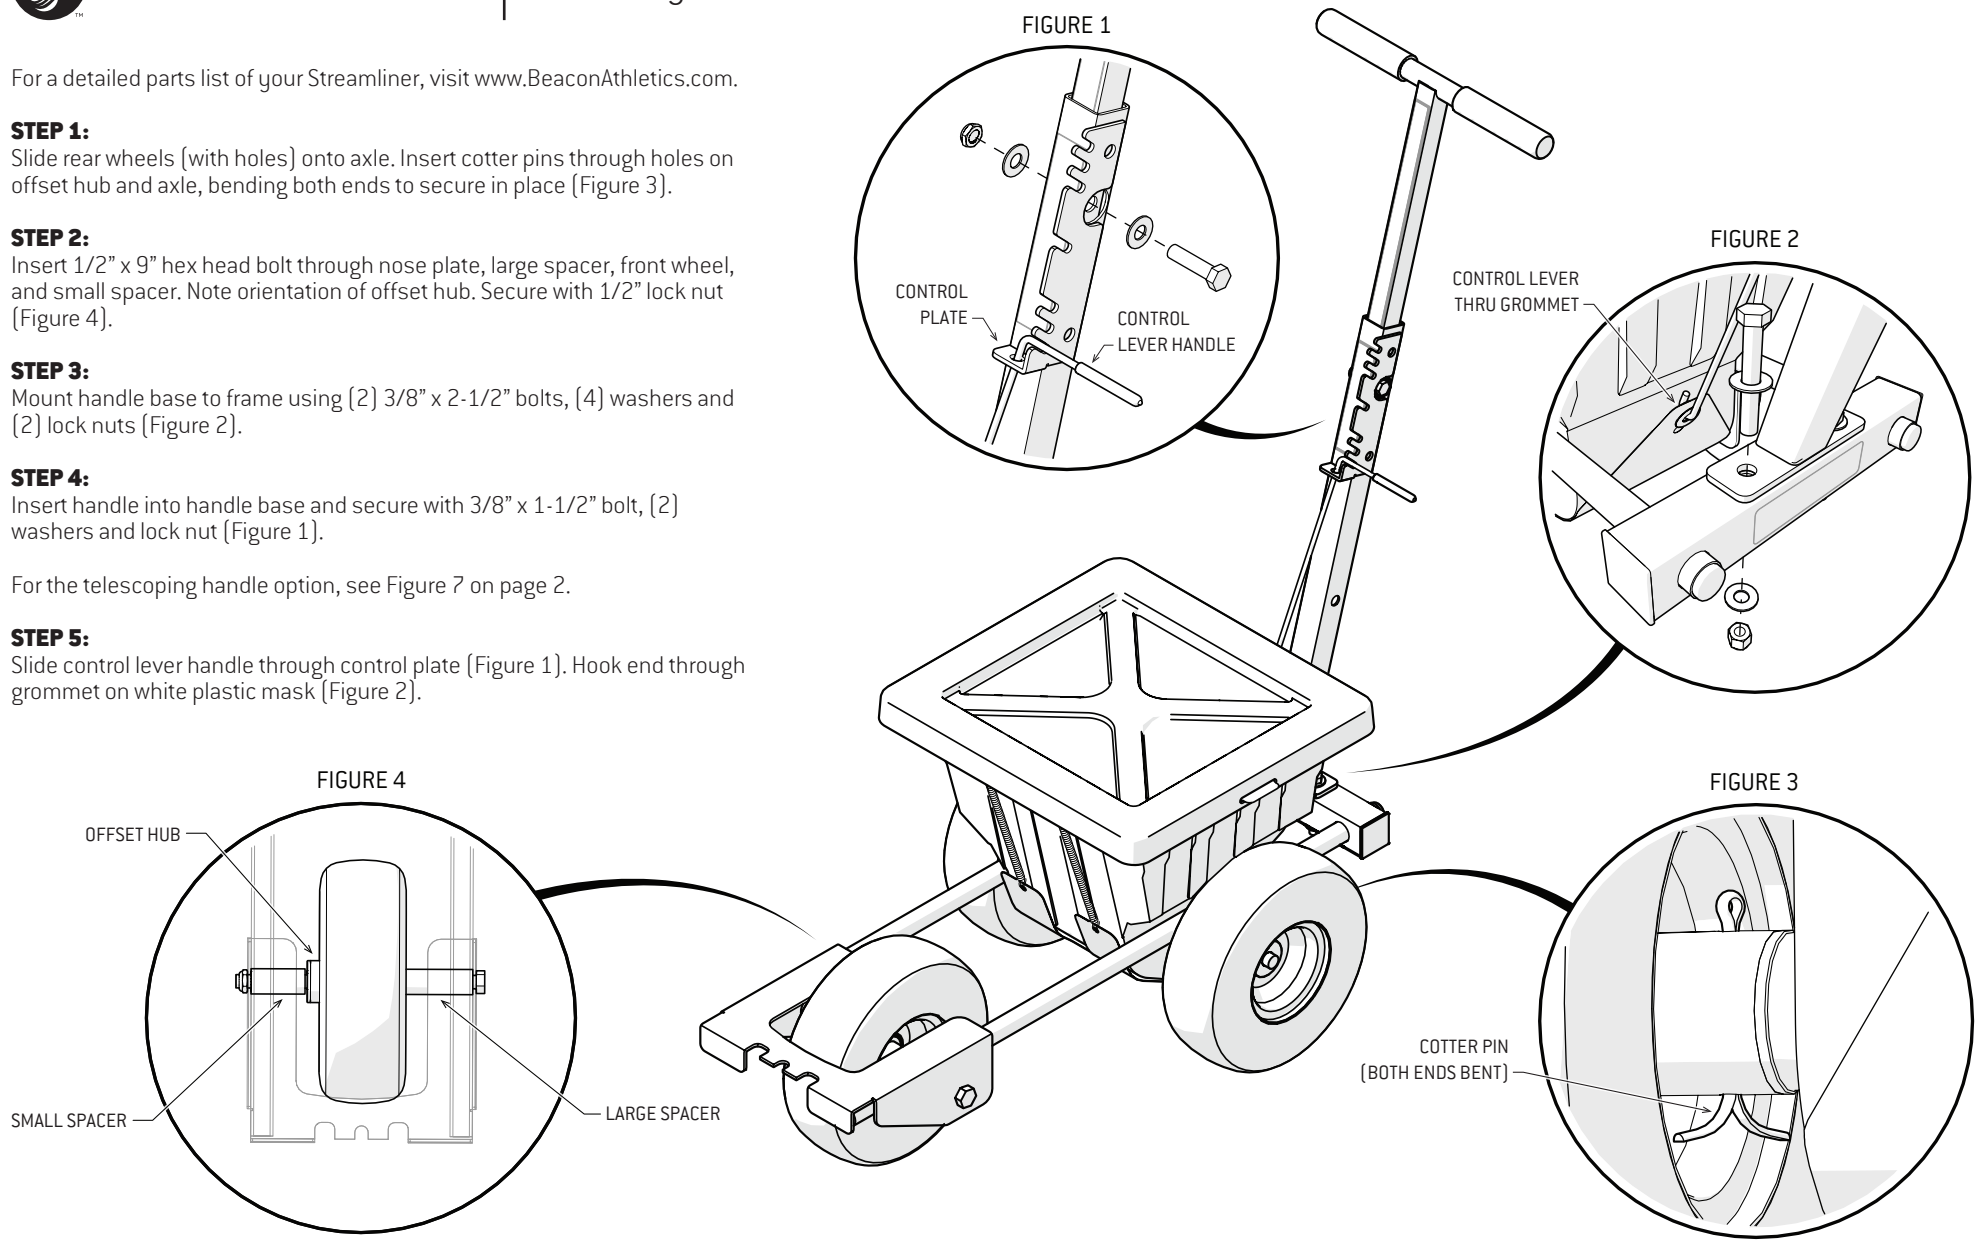
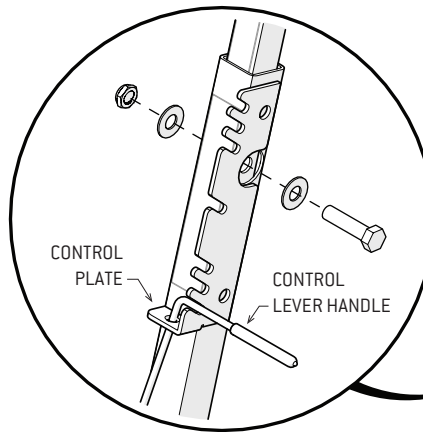

FIGURE 1
FIGURE 2
Mount handle base to frame using (2) 3/8" x 2-1/2" bolts, (4) washers and (2) lock nuts (Figure 2).
Insert handle into handle base and secure with 3/8" x 1-1/2" bolt, (2) washers and lock nut (Figure 1).
Slide control lever handle through control plate (Figure 1). Hook end through grommet on white plastic mask (Figure 2).